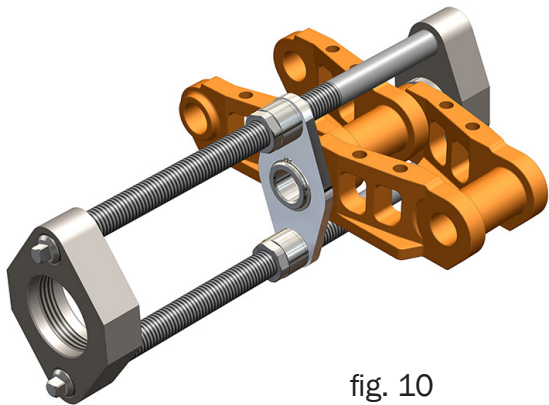
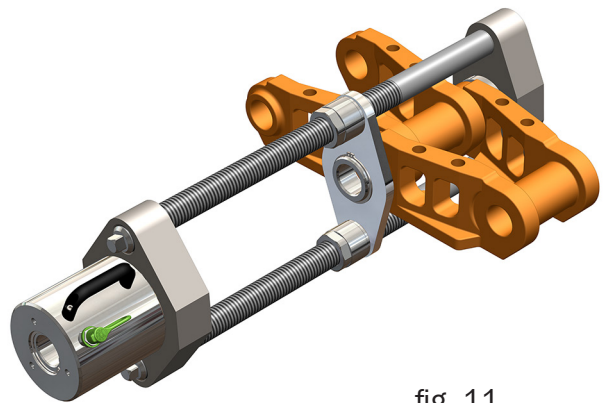

fig. 10
fig. 11
4. Place the cylinder yoke at the end of the rods as shown in fig. 10. Screw the cylinder into the cylinder yoke, fig. 11.